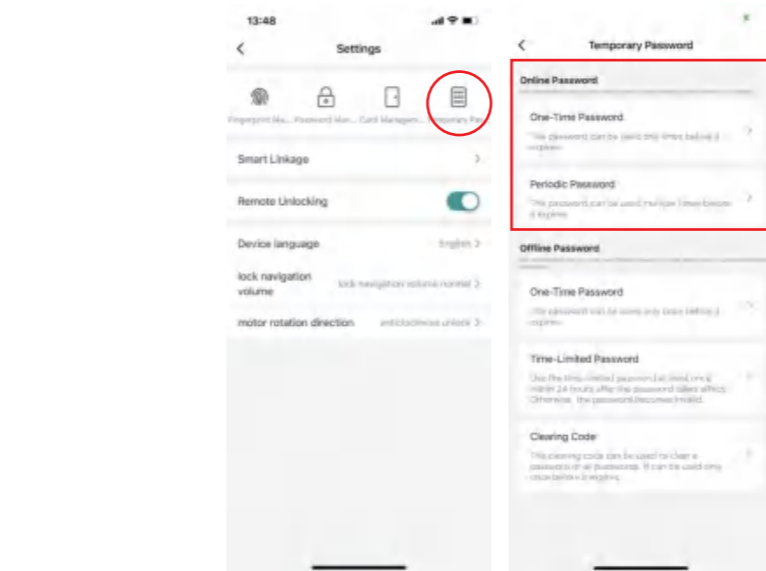

Figure Q-2
(2) Online password (Figure Q-2)